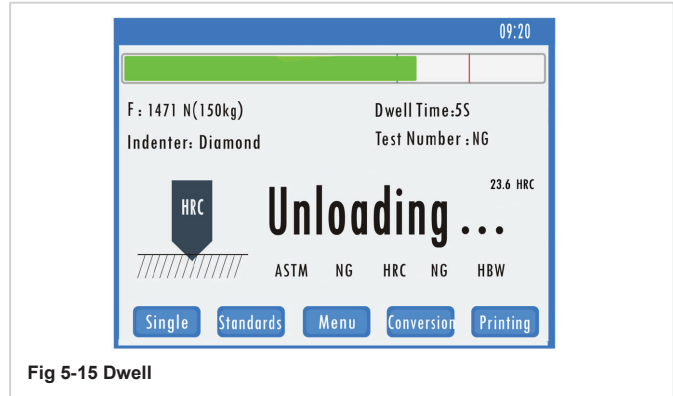
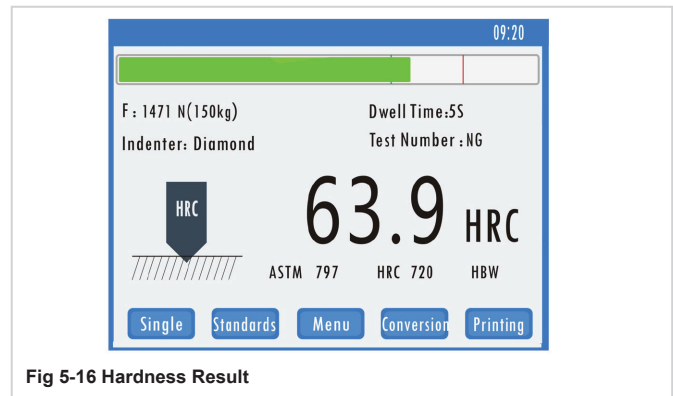

Fig 5-15 Dwell
Fig 5-16 Hardness Result
**5.3.5** The motor should be started, making the automatic loading of main test force. The dwell time of the total test force is 5 seconds and the screen will back-counting of the dwell time to 0 second (see Fig 5-15). The motor should be turned again; the instrument automatically unloads the main test force; then keeps the initial test force. When the buzzer sounds, read out the hardness value showed in the Hardness Value Displaying Area on the screen, see Fig 5-16.